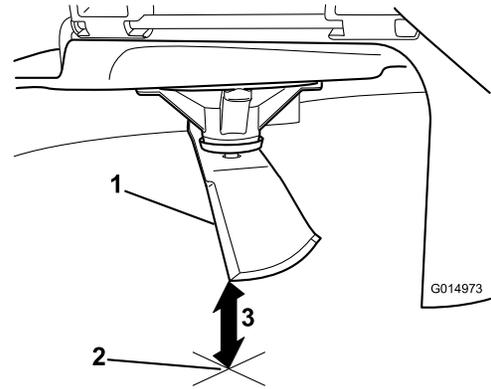

**Figure 100**
3. Measured distance between blade and the surface (A)
4. Rotate the same blade 180 degrees so that the opposing cutting edge is now in the same position (Figure 100).